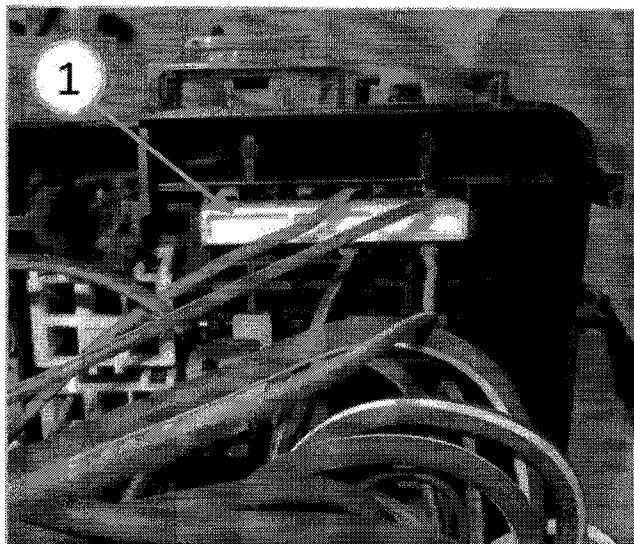

Fig. 5 New Lock Installed
14. Install the NEW white plastic terminal lock provided in the repair kit, see (Fig. 5).